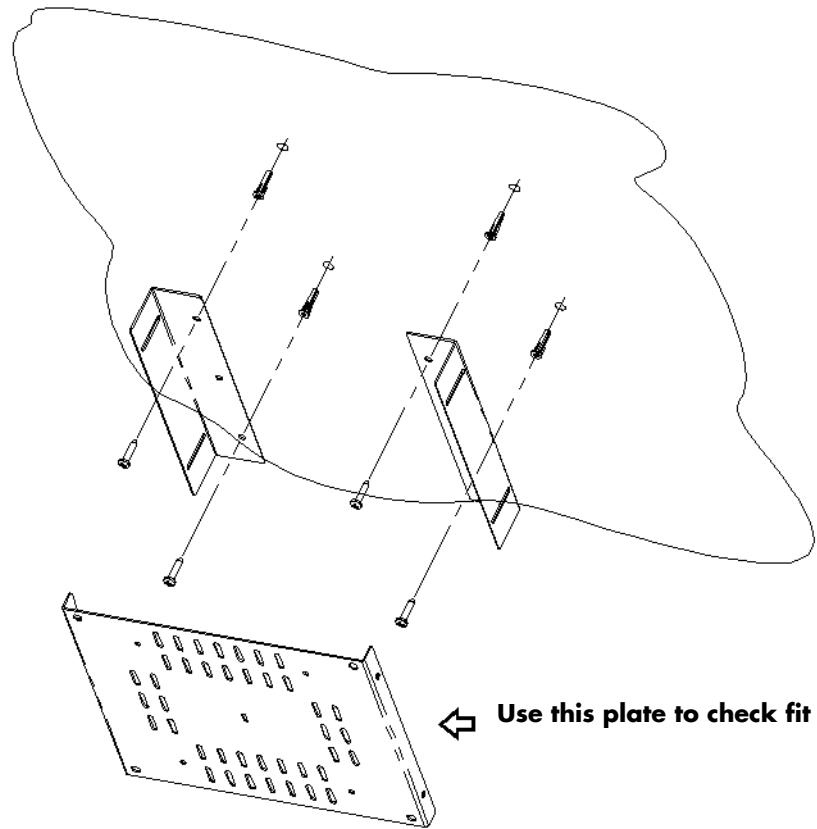

Figure 13: Side Bracket Installation
2. Figure 13 Push Anchors into holes until they are flush. Attach the side brackets to the ceiling using the 1" sheet metal screws. Check the alignment of the side brackets by sliding the rear plate between the two brackets. Once a good fit has been established, tighten side brackets to ceiling.